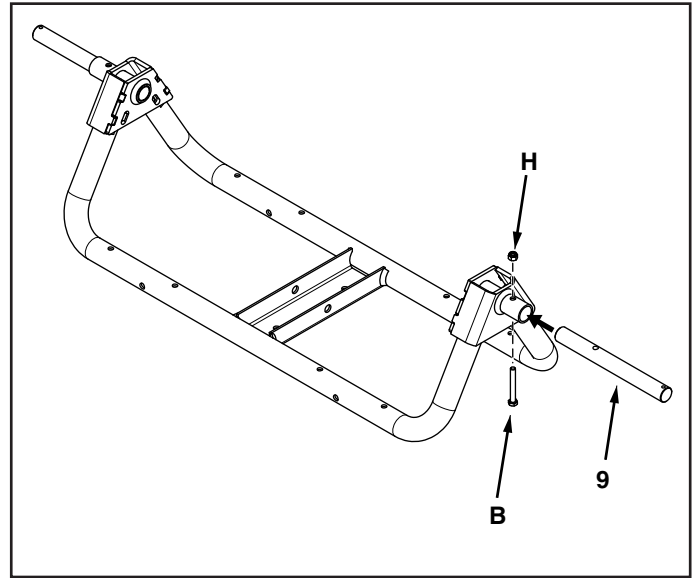

FIGURE 6
STEP 6: (SEE FIGURE 6)
1. Attach the axle (9) to the wheel support using a $\frac{5}{16}$ " x $1\frac{3}{4}$ " hex bolt (B) and a $\frac{5}{16}$ " nylock nut (H). Repeat this step to attach the other axle to the opposite side.